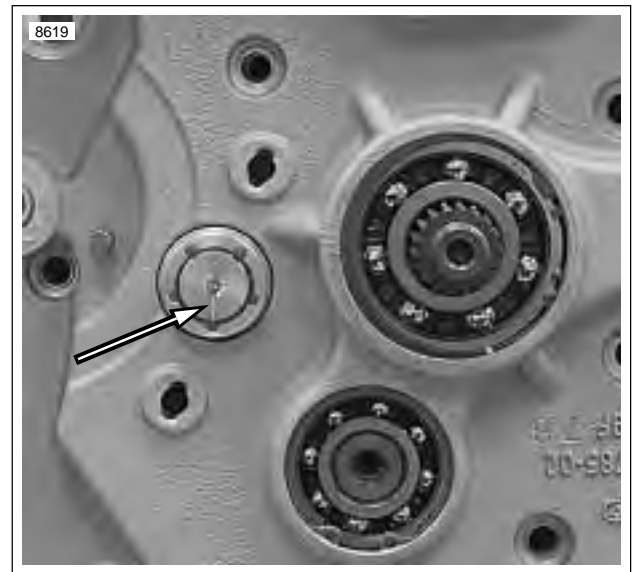

Figure 6-87. Scribed Line on Shifter Drum at 6 O'clock (Transmission in 4th Gear)
3. See Figure 6-87. Place Transmission in the 4th gear position. The scribed line on the shifting drum should be at 6 o'clock.